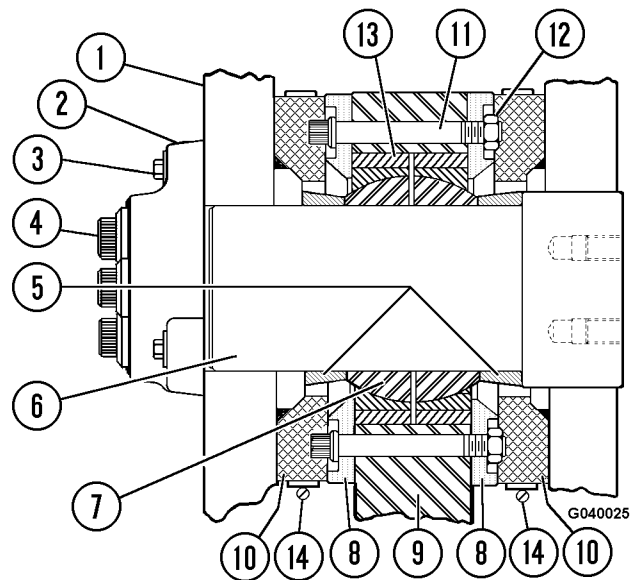

FIGURE 4-1. PIVOT PIN INSTALLATION
9. Remove cap screw and lockwasher (3, Figure 4-1). Remove cap screws (4). Remove retainer plate (2).
10. Install puller using tapped holes in head of pin. Remove pin (6).
NOTE 2: If the bore for the Pivot Pin (6, Figure 4-1) in the Mounting Structure (1, Retainer Plate side) has been damaged, a rework procedure to install a sleeve is available. The rework drawing, EG4670, is available in AK4952 Nose Cone Repair Kit.
2. Be certain spherical bearing inner race (7) is aligned. Install spacers (5, Figure 4-1), cover rings (10), and pin (6).
3. Line up cap screw holes in pin with cap screw holes in retainer plate (2). Install cap screws (4).
- a. Install cap screws and lockwashers (3).
- b. Tighten cap screws (3) to **125 ft. lbs. (170 N.m)** torque.
- c. Tighten cap screws (4) to **1715 ft. lbs. (2325 N.m)** torque.
5. Install clamps (14) on cover rings (10). Tighten clamps just enough to hold covers in place.